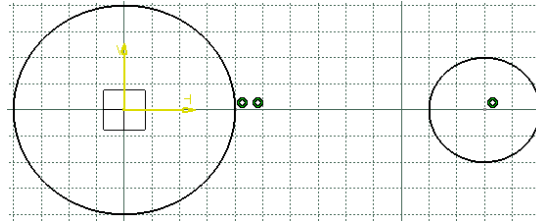

Figure 3-52 The sketch after drawing the second circle
- Move the cursor toward the right and specify the point on the circle when **20** is displayed as the radius value in the **R** edit box of the **Sketch tools** toolbar. The sketch, after drawing the second circle, is shown in Figure 3-52.